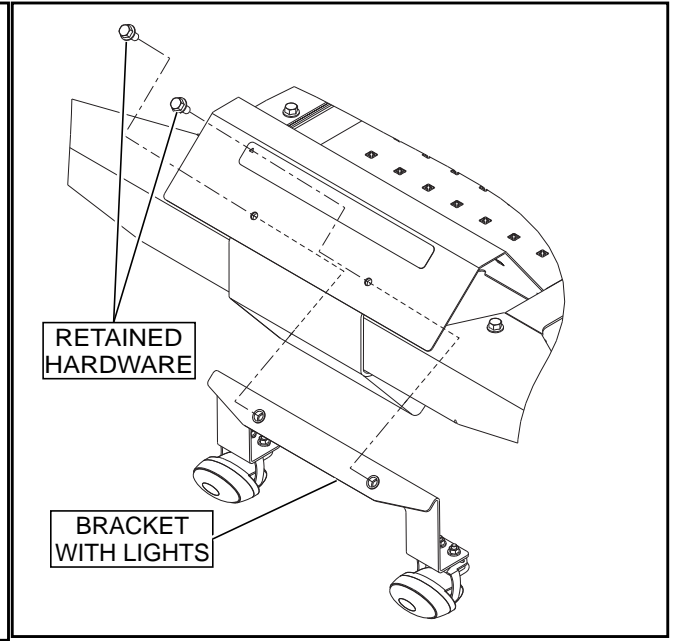

FIG. 14
16. Assemble the bracket with lights to the mower using the 3/8" bolts from the previous step (Fig. 14).